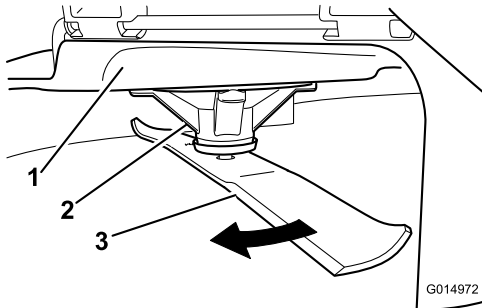

Figure 60
2. While wearing thickly padded gloves, or other adequate hand protection, slowly rotate the blade into a position that allows you to measure the distance between the cutting edge and the level surface the machine is on (Figure 60).